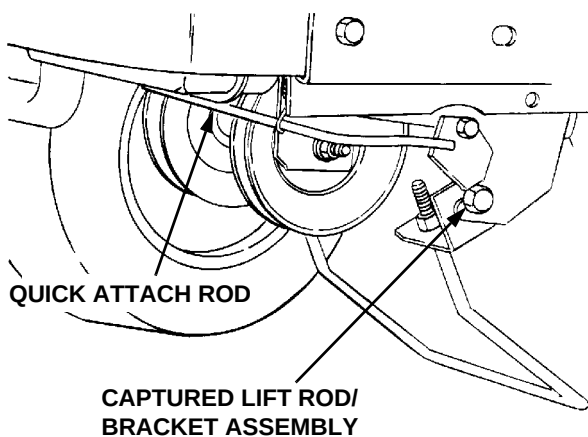

Figure 37
7. Release the tractor quick-attach rod to capture the front lift rod/bracket assembly in the tractor latch receivers (See Figure 37).